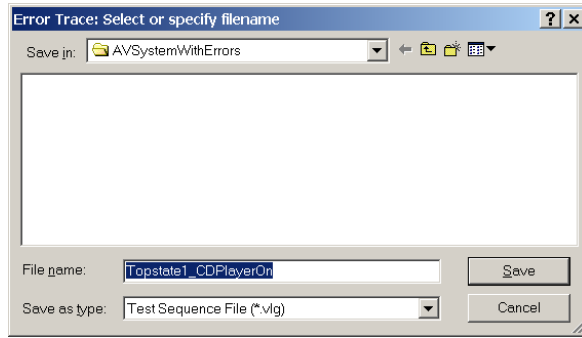

Figure 112: Specifying trace output file name
- 4 Select or specify the file name for the trace output file and click **Save**. See *Figure 112*, page 142.